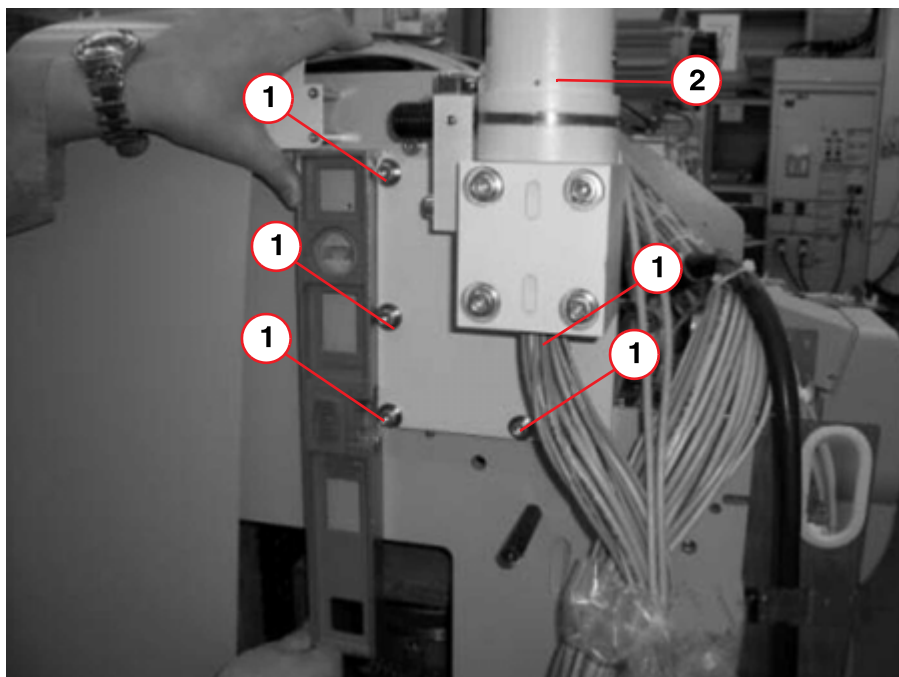

Fig. 34: Support arm connections
- Secure the unit connection of the TFT support arm via the 4 already removed cylinder-head screws M8 x 25 DIN 912 incl. washer 8,2 x 20 x 2 to the lifting base (1/Fig. 34 / p. 31).
Use a level to align the unit connection (Fig. 34 / p. 31).